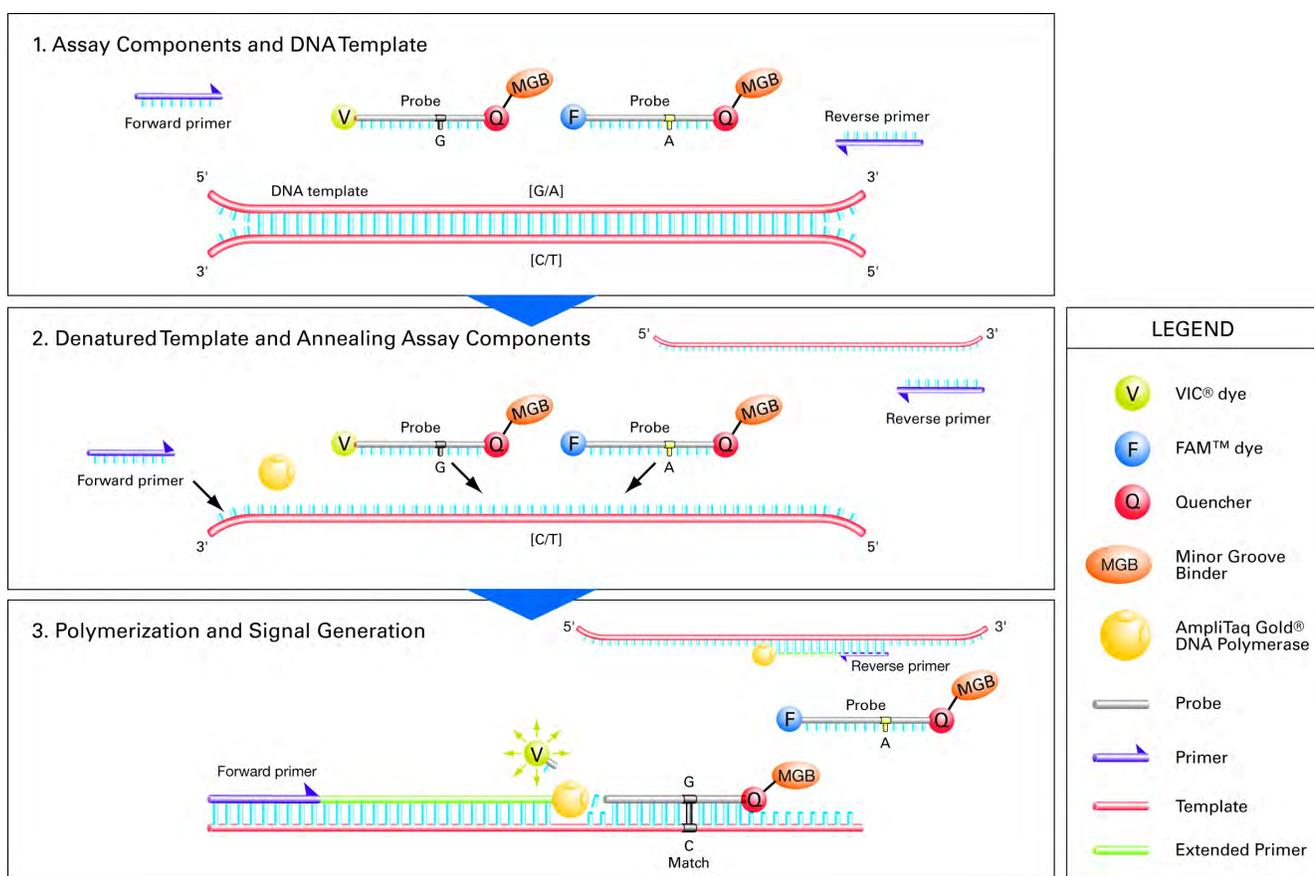

Figure 20 TaqMan® Reagents detection process
- As shown in Figure 20, the exonuclease activity of AmpliTaq Gold® DNA Polymerase cleaves only probes hybridized to the target. Cleavage separates the reporter dye from the quencher dye, increasing fluorescence by the reporter.